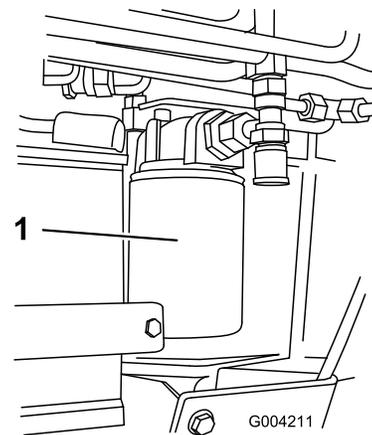

Figure 52
4. Place a drain pan under the filter (Figure 52).
5. Remove the old filter (Figure 52) and wipe the surface of the filter adapter gasket clean.
7. Install the replacement hydraulic filter onto the filter adapter (Figure 52). Tighten it clockwise until the rubber gasket contacts the filter adapter, then tighten the filter an additional 3/4 turn.